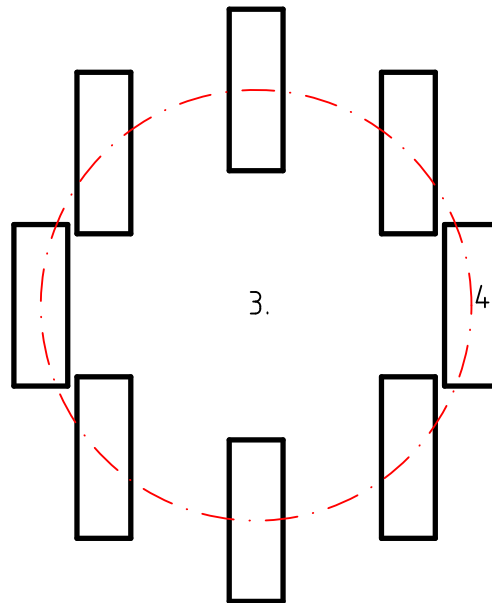

Figure 56: Rotate around two centers, an absolute center (3.) and a relative center (4.).
4. Set the center of the rotation for the individual objects. The second center is rotated together with the entities around the first center (Figure 56).